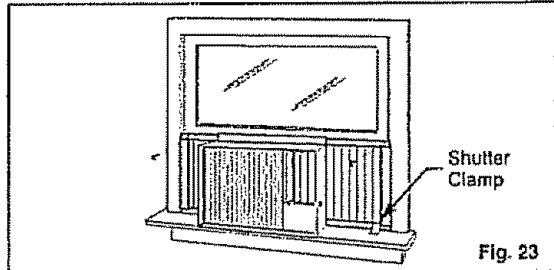

Fig. 23
- Expand the shutter frames (fully) on each side and secure the top of the shutter frame to the window sash using one 3/4" screw & flat washer on each side. Fig. 23
- Install a shutter clamp on each side of the (lower) shutter frame and secure to window sill using one 3/4" screw & flat washer on each side. Fig 23